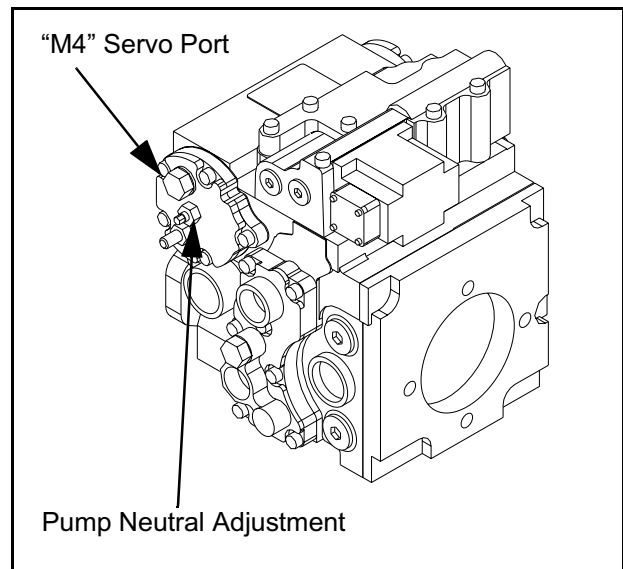

Figure 5 - 17 Spreading Auger Pump Ports
- 1) Disconnect high pressure line to the spreading auger hydraulic motor and plug line. (Figure 5 - 18)